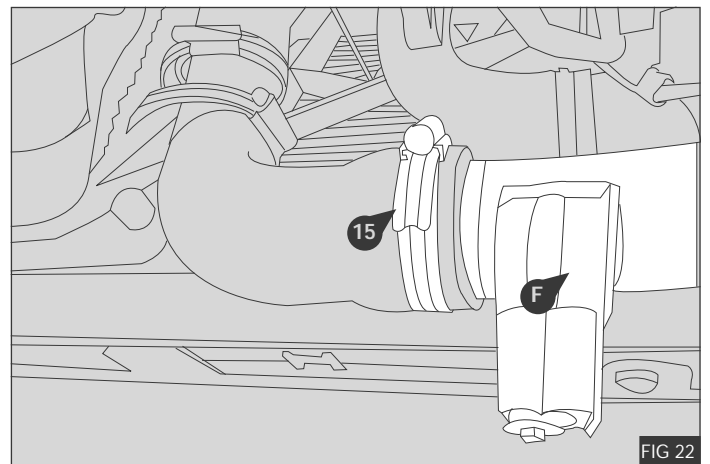

FIG 22
12. Secure the newly assembled air hose to the lower metal air pipe (F) using one 40-60mm pipe clip (15) - Fig 22.